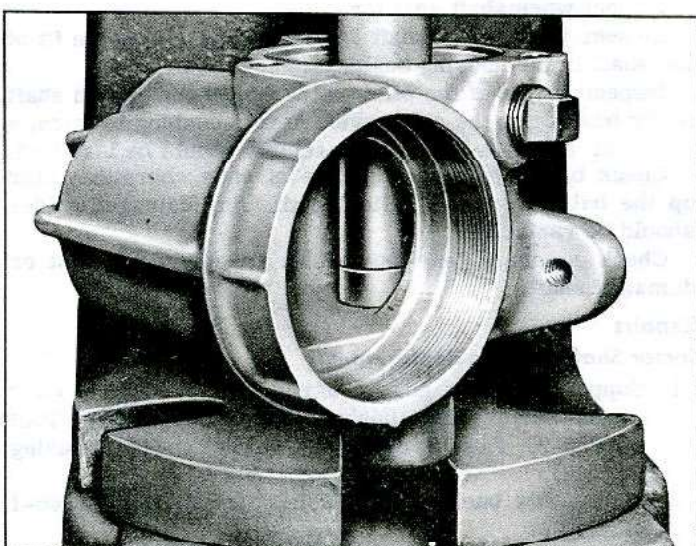

Fig. 12—Installing Sector Shaft Bushing
2. Press new bushing into position using Tool J-8366-1 (fig. 12).